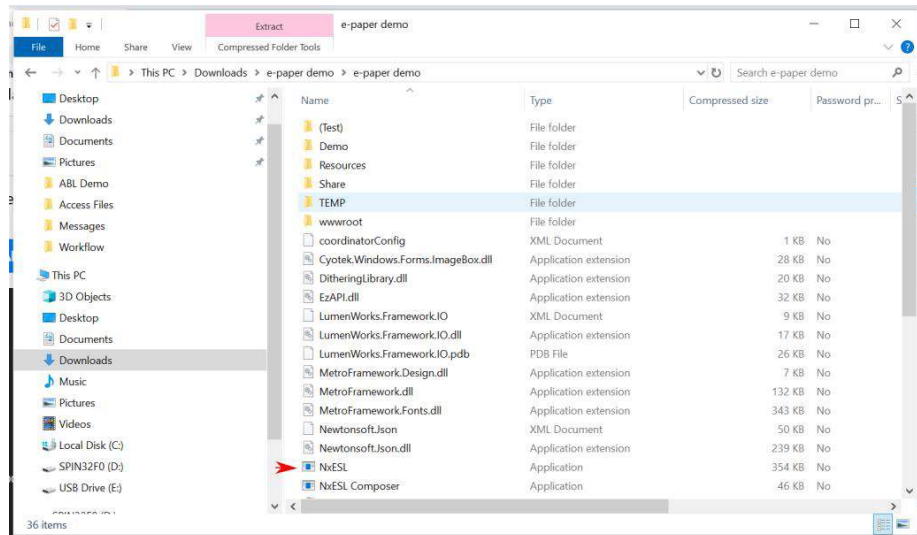

Fig. 3
2. Download the e-paper demo.zip file; then extract the NxESL application file. Save the extracted files in the demo folder. See Figure 3.